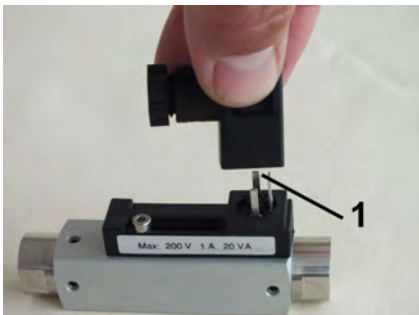

Fig. 53: Remove the female socket
2. ➔ Remove the female socket and gasket (Fig. 53/1) by pulling upwards